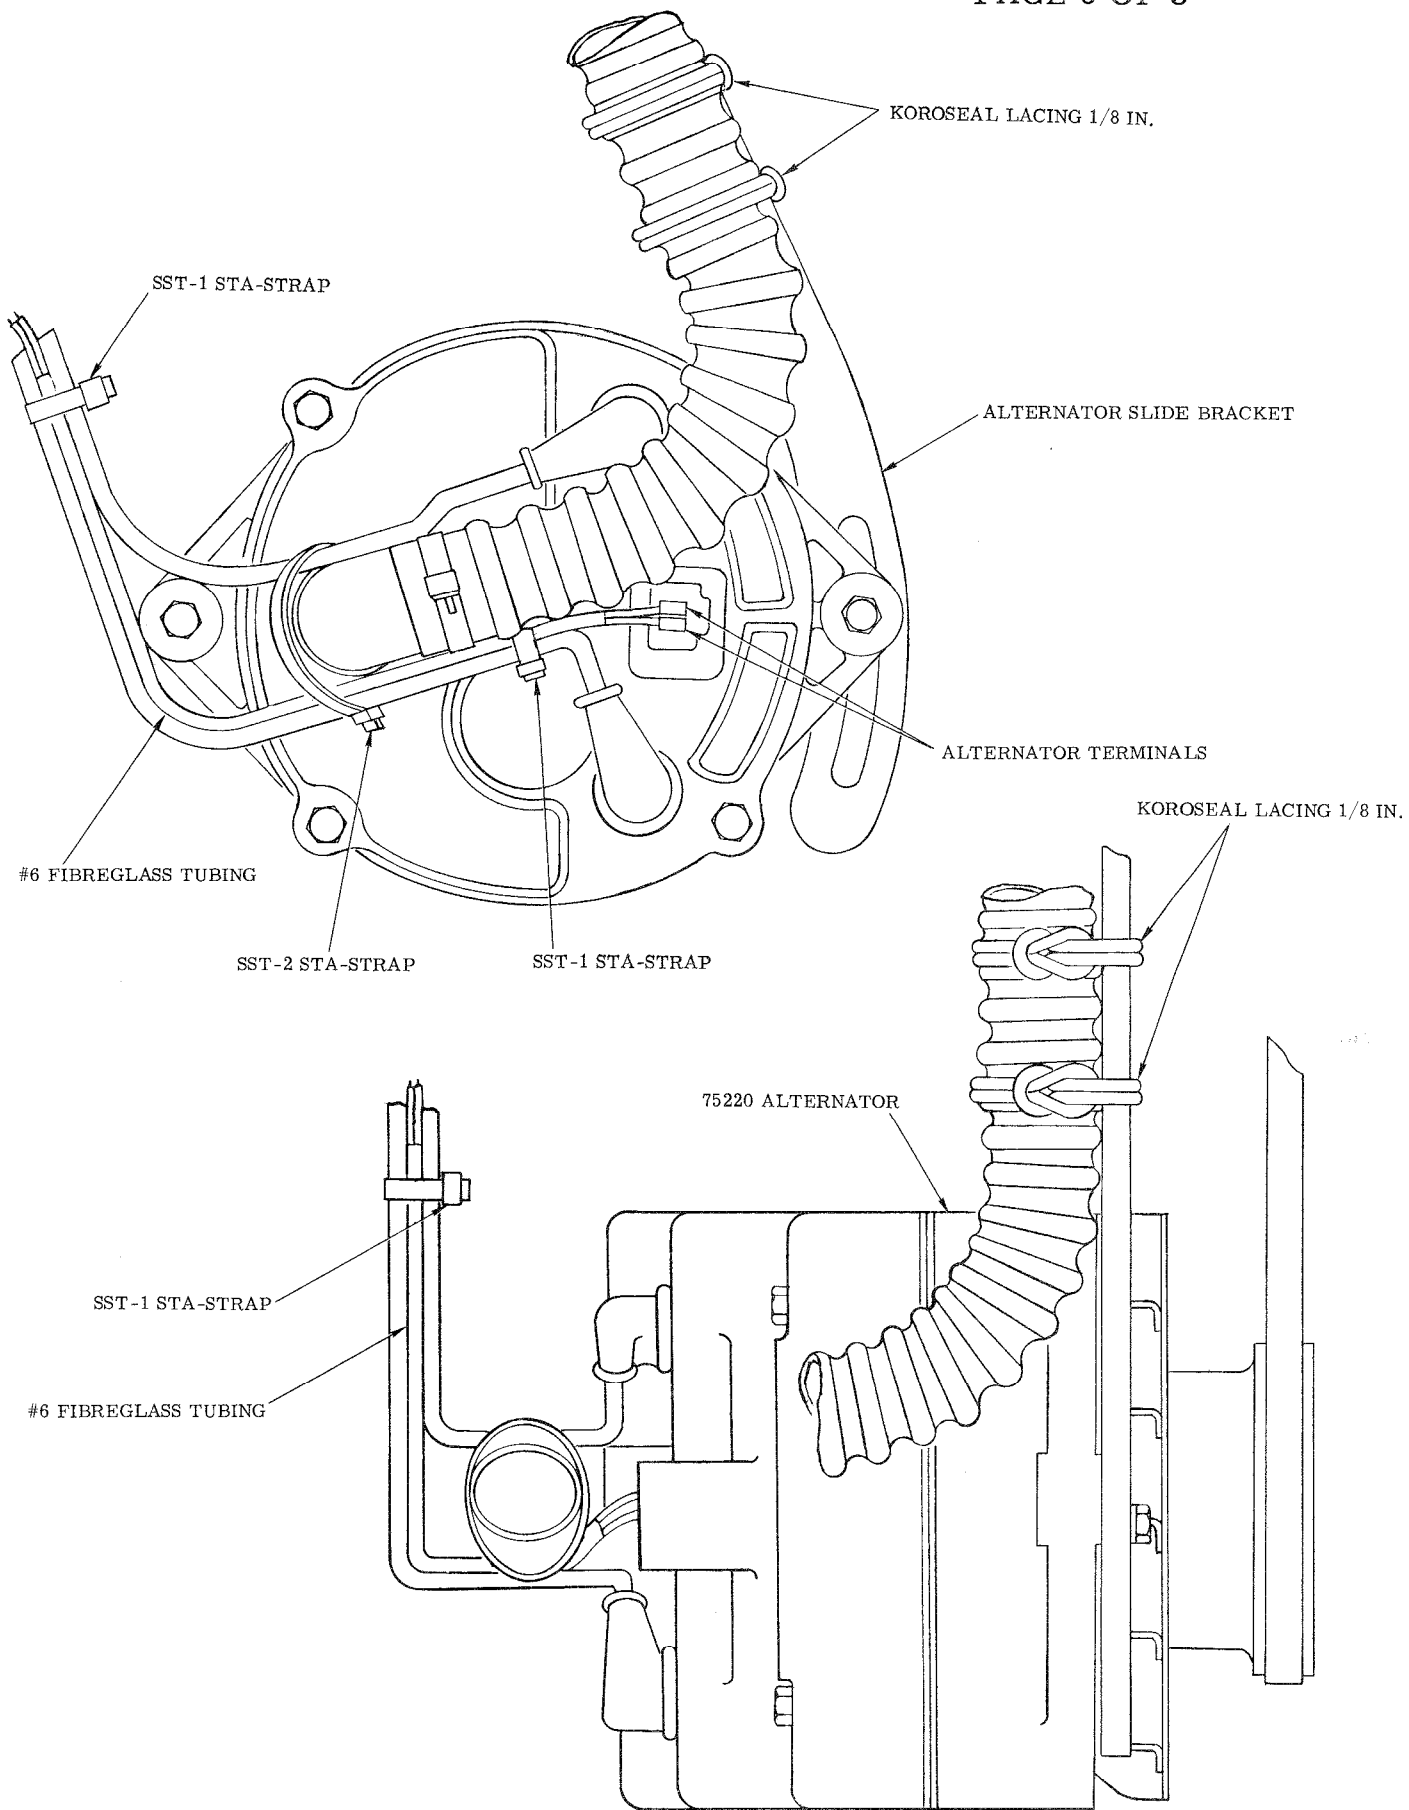

Figure 1. Alternator Wiring
- b. Secure air blast tube two (2) places on alternator slide bracket, per Figure 1, using Koroseal lacings and standard aircraft standoff ties.
- e. Secure wires two (2) places with SST-1 Sta-Straps; secure wires to air blast tube fitting with SST-2 Sta-Strap.